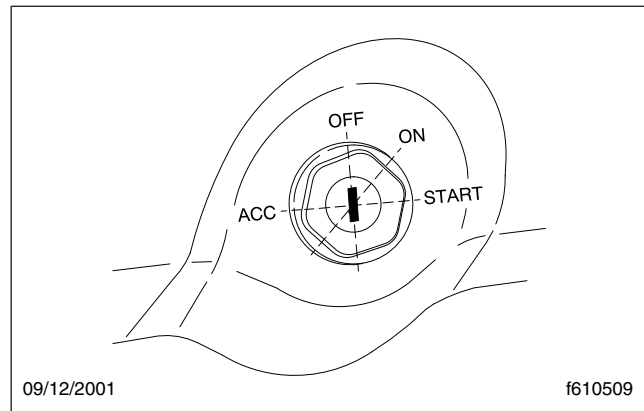

Fig. 19.10, Ignition Switch Positions
4. Ensure that the transmission shift control is in Neutral (N), Park (P), or the Park Brake (PB) position.
5. Without starting the engine, turn the ignition switch to the ON position (Fig. 19.10). The electronic gauges on the instrumentation control unit (ICU) will complete a full sweep of their dials, the warning and indicator lights will illuminate, and the buzzer will sound for three seconds.